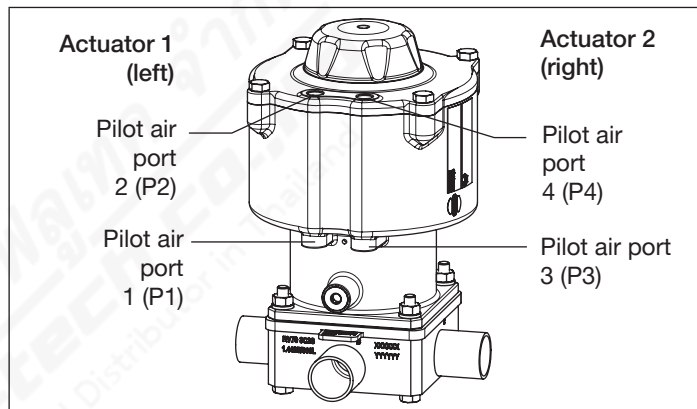

Fig. 17: Pneumatic connection
1) Actuator assignment see “Fig. 17”.